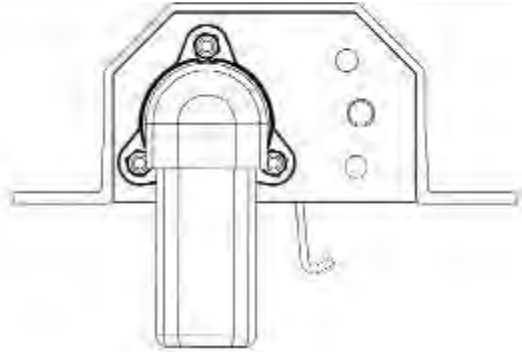

Fig. 1
- 1) Locate the driver side pivot box (see Fig. 1) and remove the springs.